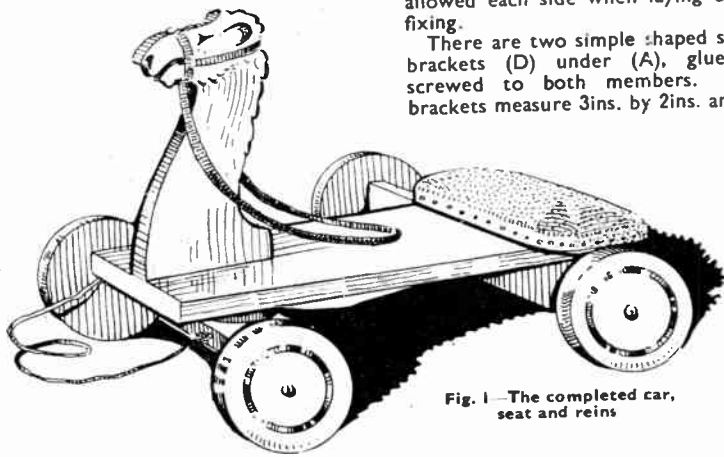

Fig. 1—The completed car, seat and reins
WE show on this page a splendid little runabout car for the quite young baby or youngster. We call it the 'Camel Car' because, as will be seen from Fig. 1, it has a realistic figure-head of the camel. The car can be used as a pull-along toy, with baby sitting on the padded seat and the big brother to pull it along.
A plan of the toy is given in Fig. 1, and some measurements are included which will help in the assembly. In Fig. 3 we see a side view showing the position of the various pieces in conjunction with the plan view. The piece (A), forming as it were the foundation piece, will first be marked and cut. It is a plain oblong measuring 16ins. by 4ins. by  $\frac{3}{8}$ in. thick, and at the front end a mortise will be cut in it 2 $\frac{1}{2}$ ins. long by  $\frac{3}{8}$ in. wide to take the head of the camel.